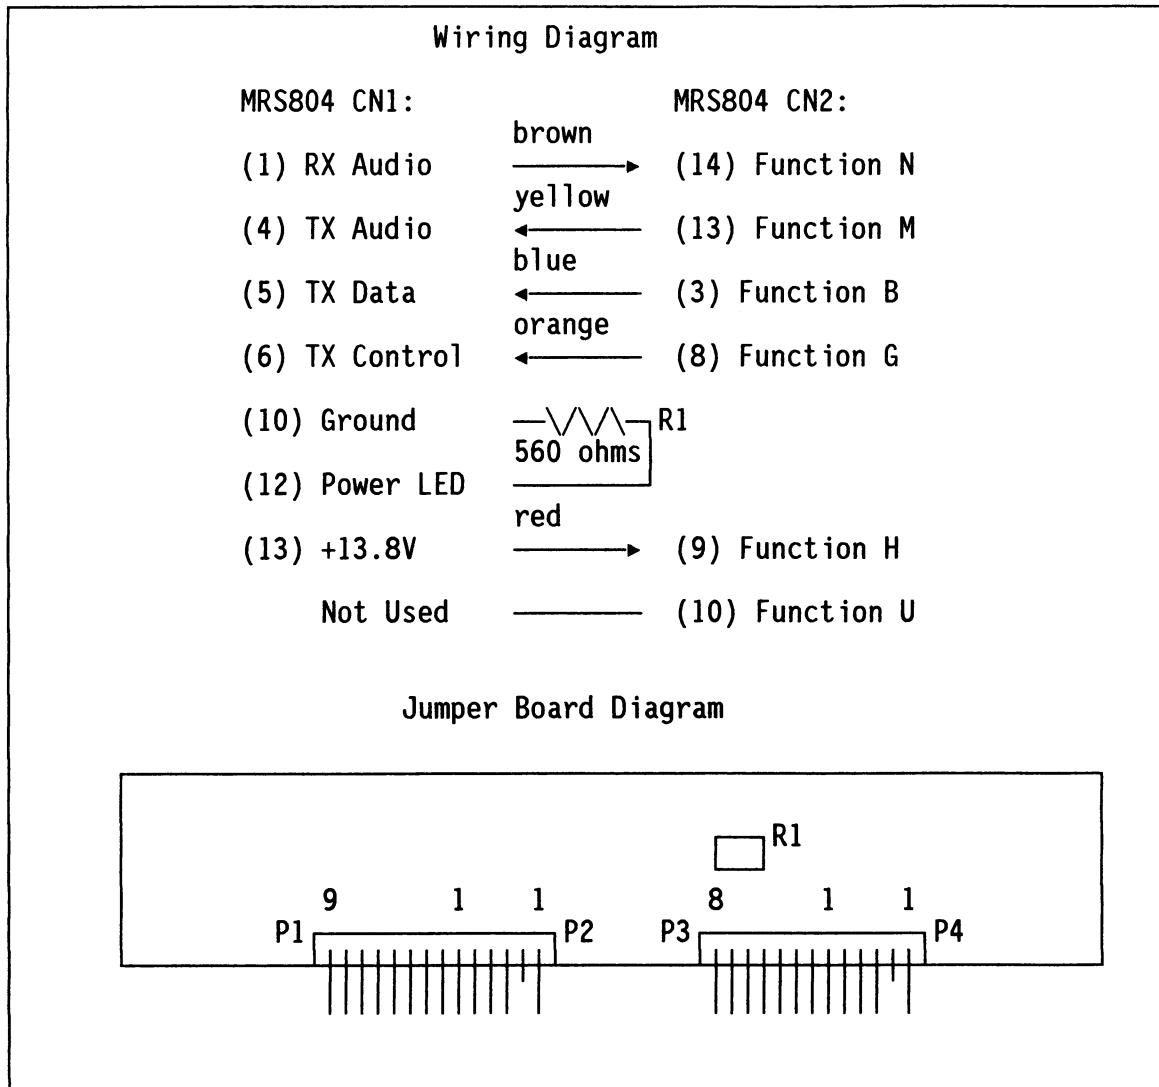

Figure 4-18. Zetron/Uniden MRS804 Jumper Board (P/N 702-9404)
- [] 4. Connect the Zetron jumper board (Part No. 702-9404) between CN1 and CN2. Note that the Uniden connectors have plastic keys in the pin 2 position. See Figure 4-18.